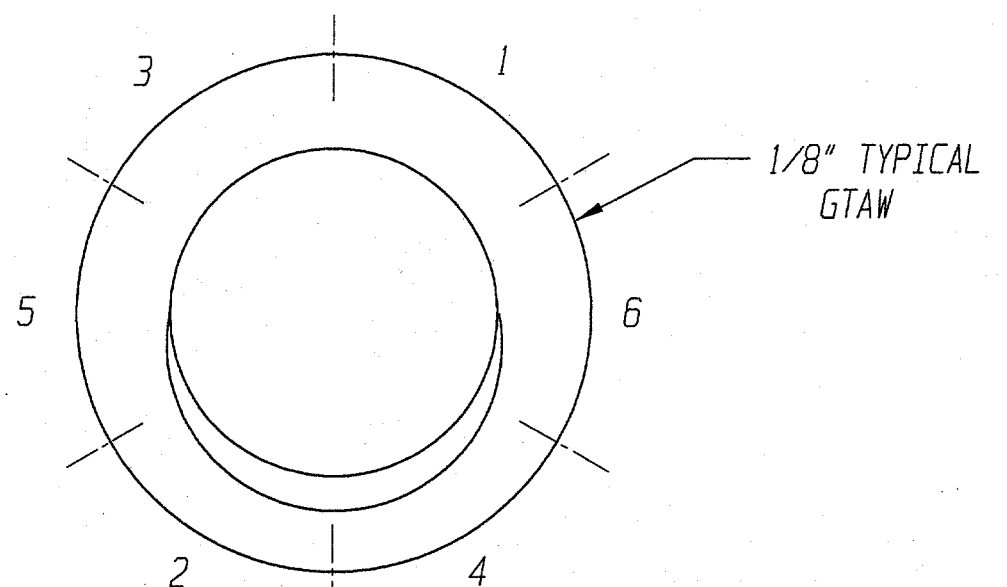

Figure 3. Welding Sequence View - Inside Tank
1. Weld the indicated portions of the tank spud in the sequence depicted in Figure 3.